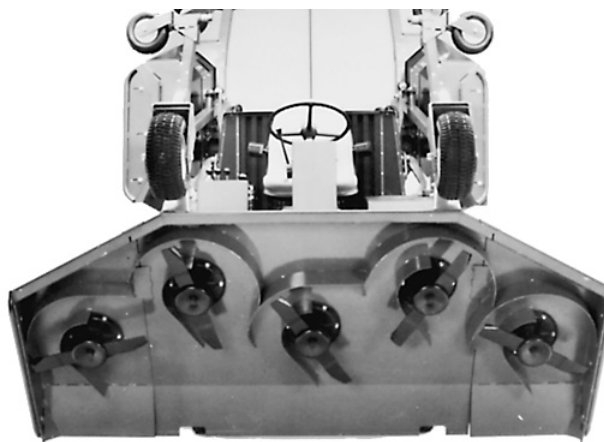

Figure 61
Note: Although not needed for normal maintenance procedures, the front cutting unit can be pivoted (tilted) to a fully upright position (Fig. 61). Should you desire to tilt the cutting unit, proceed as follows:
6. Use at least one other person to tilt the cutting unit. Grasp the front of the unit and lift it to an upright position (Fig. 61).